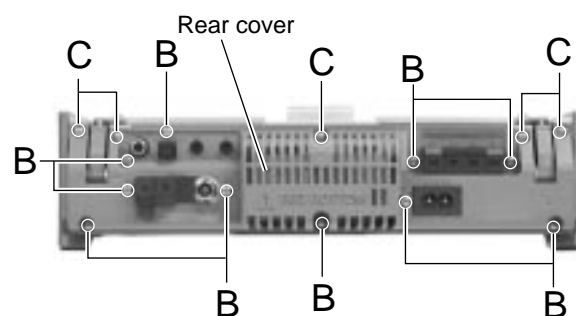

Fig.2
■Removing the rear cover (See Fig.2)